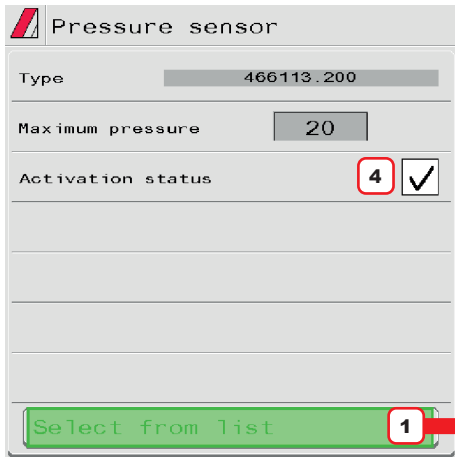

Fig. 46
- The relevant configuration data will be automatically loaded (Fig. 46).